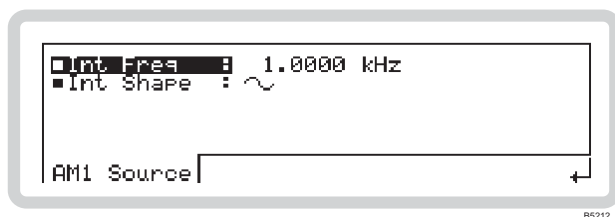

Fig. 3-75 Internal source, modulation path 1
- 2 Press to show the main screen. Touch the appropriate modulation soft box, followed by , to select the function. Press to view the internal source menu for path 1 (Fig. 3-75).